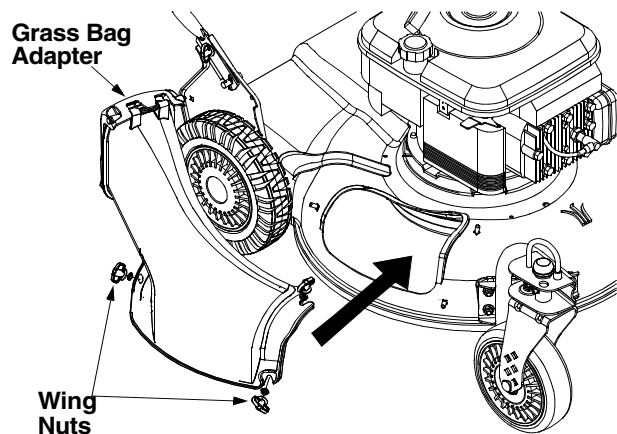

Figure 7
- Replace with grass bag adapter, while making sure the front lip of adapter goes under the edge of the deck. Secure with wing nuts previously removed. See Figure 7.